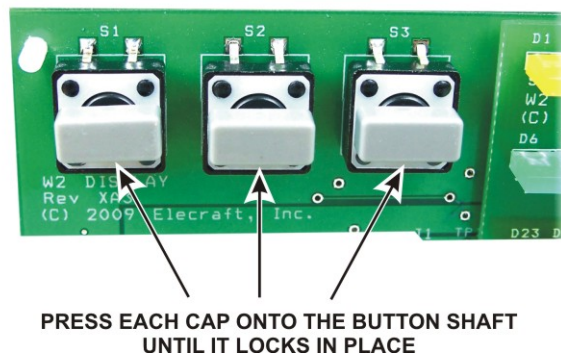

Figure 4. Installing Pushbutton Key Caps.
□ Press one gray keycap onto each of the three pushbuttons on the front panel board (see Figure 4)